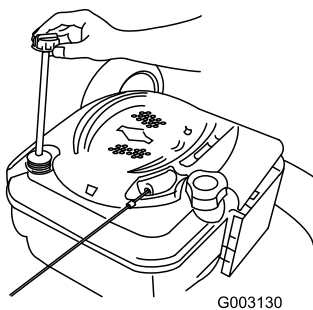

Figure 36
- Retirez la jauge (Figure 36).